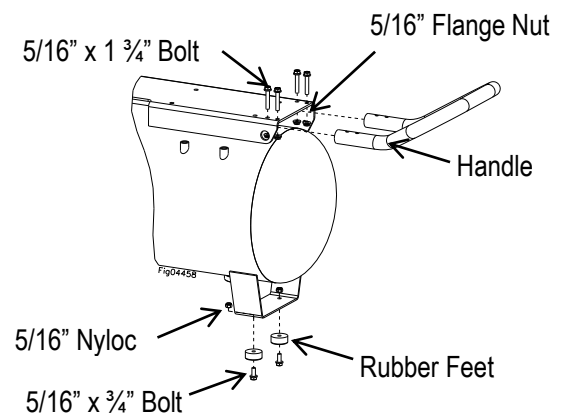

Figure 5
2. Attach handle and rubber feet as shown. (Figure 5)